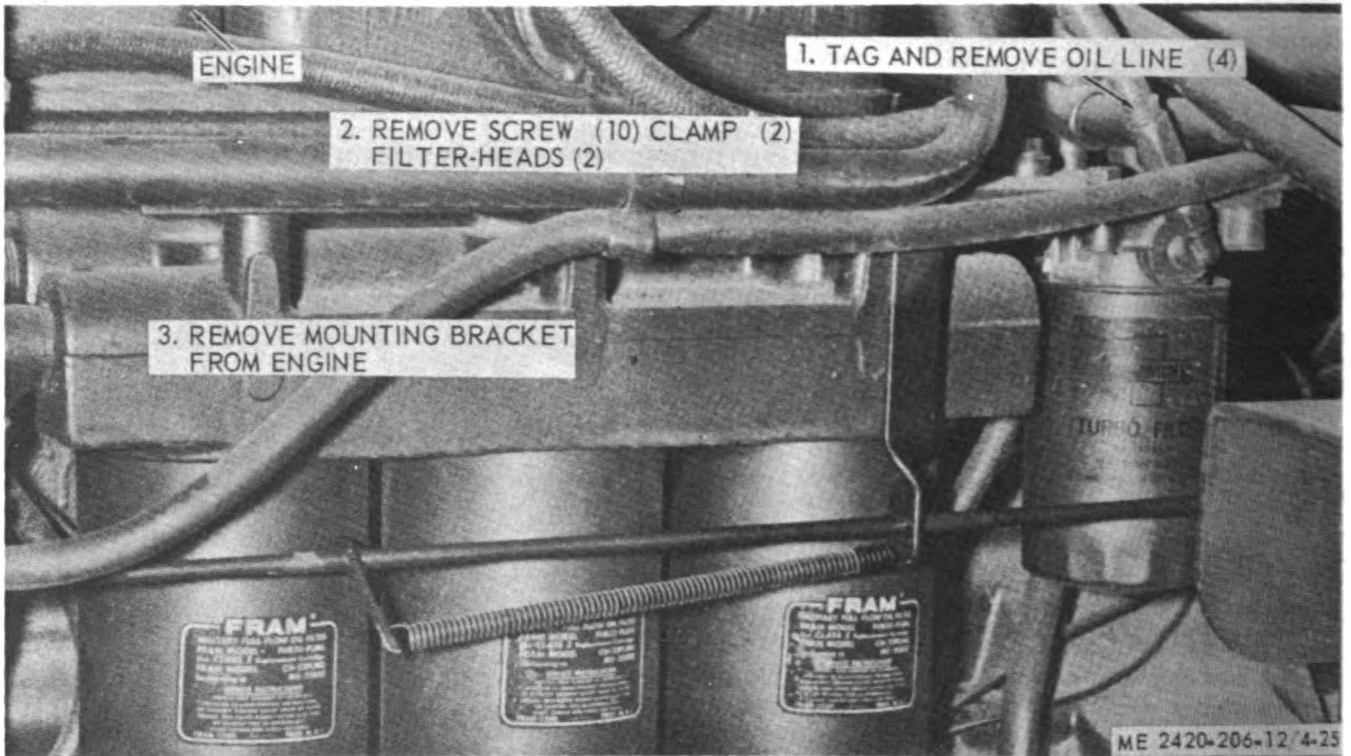

Figure 4-25. Engine and turbocharger filter head, removal and installation.
(1) Remove elements (para 3-5).
(2) Remove filter head and oil lines as illustrated in figure 4-25.
(1) Install filter heads as illustrated in figure 4-25.
(2) Install elements (para 3-5).